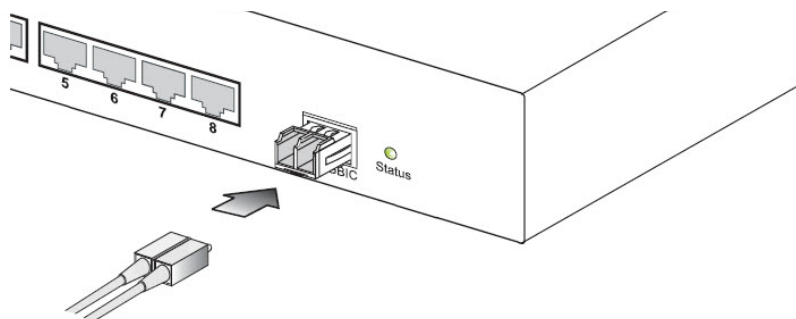

FIG. 6 Making Connections to SFP Transceivers
3. Connect one end of the cable to the LC port on the switch and the other end to the LC port on the other device (FIG. 6). Since LC connectors are keyed, the cable can be attached in only one orientation.